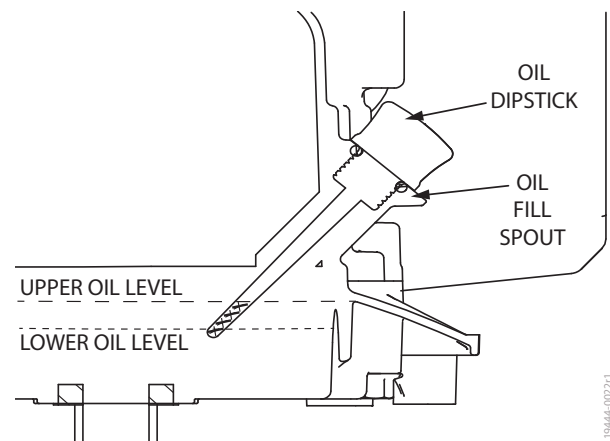

FIGURE 8: Dipstick And Oil Levels.
3. Tip engine back onto a level surface and fill with appropriate oil to the top of the marking on the dipstick (**SEE FIGURE 8**). **DO NOT OVERFILL.** For proper oil capacity and specification, see the engine manufacturer's instructions.